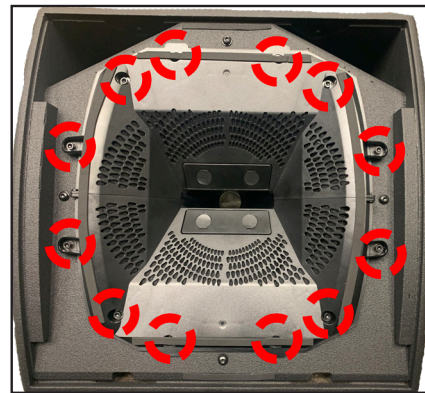

Figure 5. Waveguide Screws Removal
2.2. Remove the 12 screws securing the Waveguide as indicated in Figure 5.